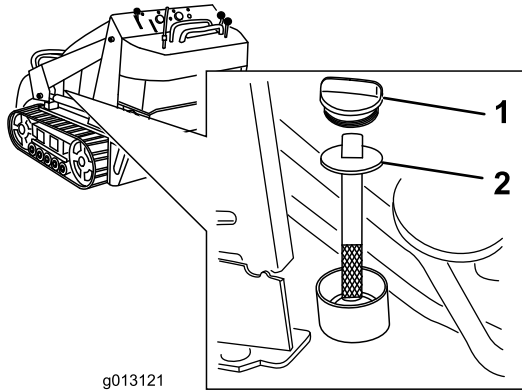

Figure 63
5. Remove the hydraulic-tank cap and dipstick (Figure 63).